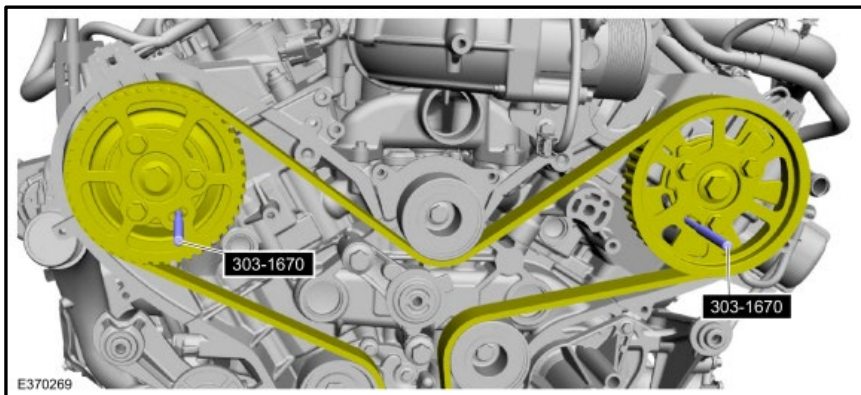

Figure 12
G. Install Camshaft Locking Pins Special Service Tool: 303-1670 (or x2 5.9mm drill bits). Figure 12.